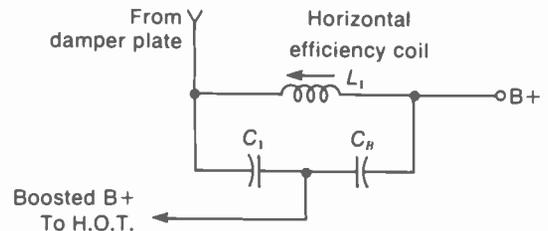

FIGURE 22-15 CIRCUIT FOR HORIZONTAL EFFICIENCY COIL WITH  $L$  OF 1 TO 8 mH.
**Efficiency coil.**  $L_1$  in Fig. 22-15 forms a parallel resonant circuit with  $C_B$  and  $C_1$ , tuned to 15,750 Hz approximately. Adjusting  $L_1$  shifts the phase of the 15,750-Hz ripple in B+ boost voltage for the horizontal amplifier. The parallel resonance allows minimum average dc plate current in the output tube. This is the condition for maximum efficiency. The efficiency coil  $L_1$  is generally adjusted for minimum cathode current on the hori-